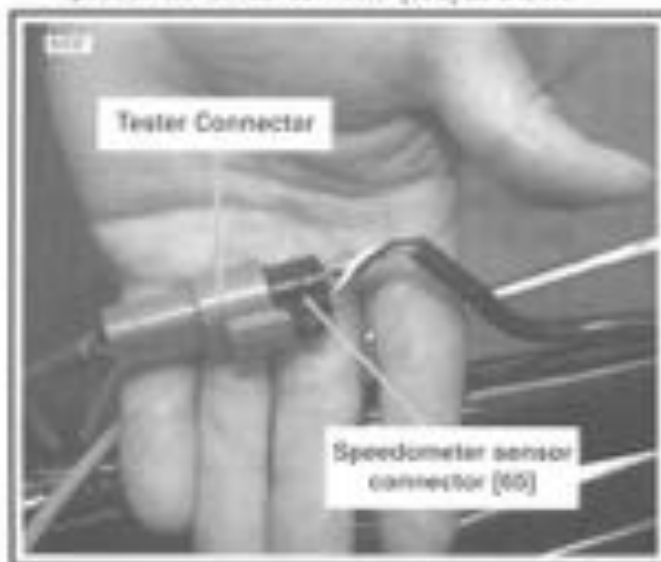

Figure 7-94. Test Connection
1. See Figure 7-94. Disconnect speedometer sensor connector [65]. Install speedometer tester connector into speedometer sensor connector [65] as shown.